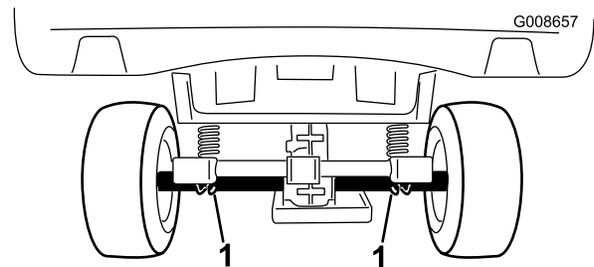

Figure 22
- The lifting point at the rear of the machine is located under the axle tubes (Figure 22).